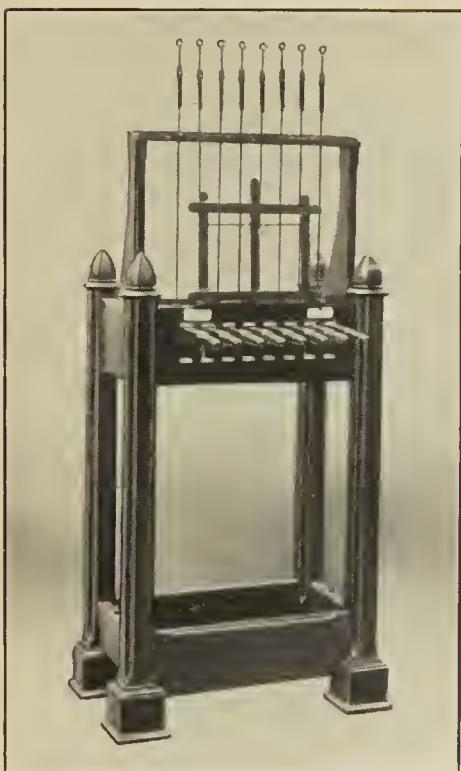

Fig. 1. Clavier
**Clavier:** Fig 1. This is either self-contained for placing on the floor, or arranged without a stand for fastening to the wall. The wooden hand levers are connected by wires, cranks and rollers to clappers striking on the inside of the bell.